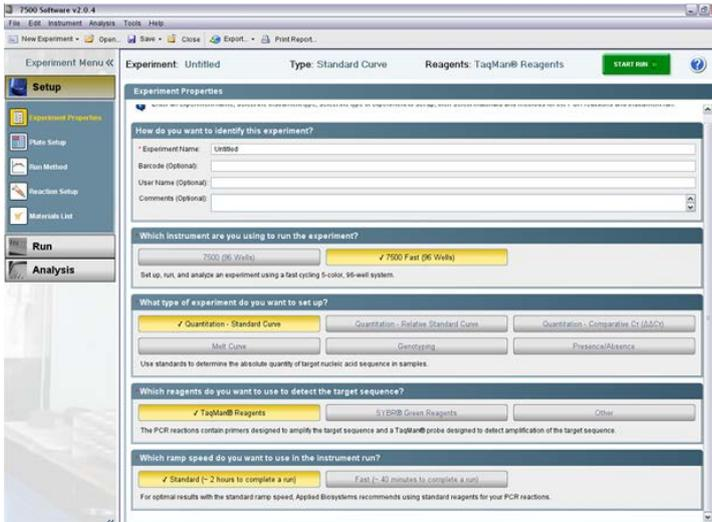

Figure 1. Experiment properties.
3. Under “Setup” > “Experiment Properties” menu (see Figure 1):